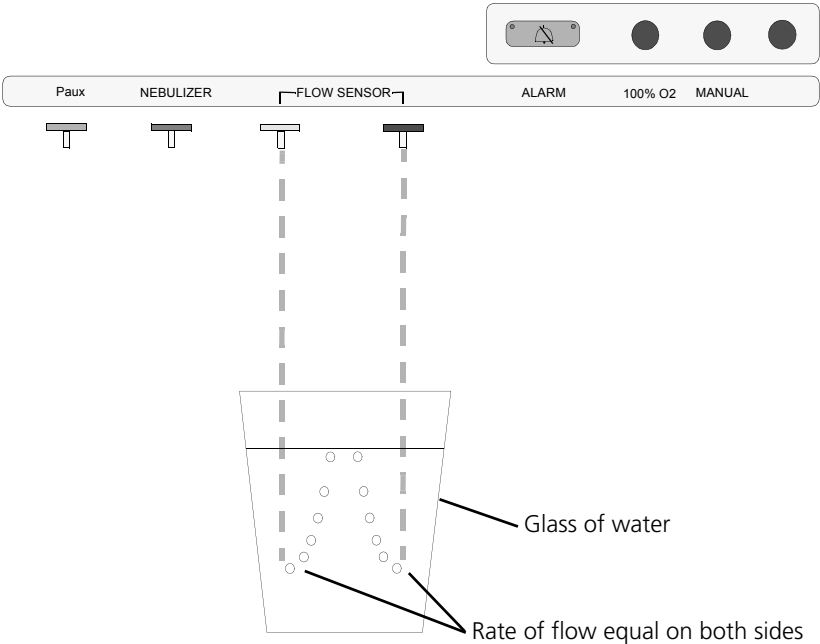

Figure 9-28. Checking the rinse flow rates
- 3. Place the ends of the tubes in a glass of water, as shown in Figure 9-28.